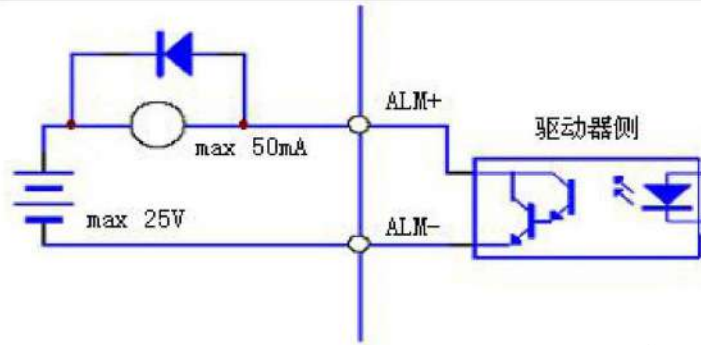

Fig. 4- 6-2b:Type2 Switching Value Output Port(Relay)
- Output is Darlington transistor, wiring with Optocoupler(fig.4- 6-2a) or Relay(fig.4- 6-2b) ;